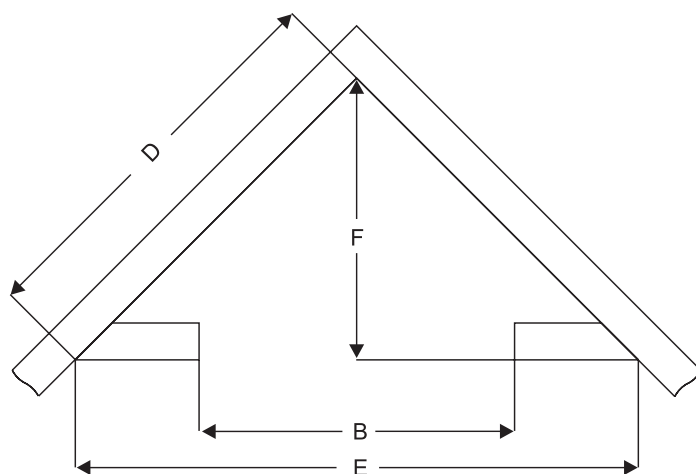
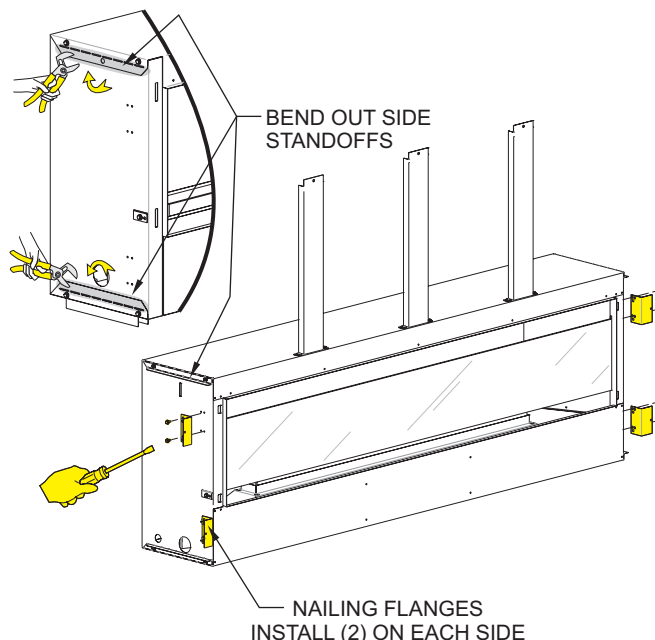

Figure 36 - Rough Opening for Installing in Corner
Figure 41
- Use dimensions shown in Figure 36 for corner rough opening. Be sure to provide gas line and electrical power for fireplace assembly.
4. On the top and bottom of each side are side framing standoffs. Use pliers to bend the side framing standoff 90 degrees away from the cabinet. See Figure 41.
5. Locate nailing flanges in the envelope pack. The holes in the nailing flanges allow different size boards and different locations for the boards. (See Figure 36) Bend the brackets at 90° angles. Install four nailing flanges with two 10 x 1/2 screws (each). (See Figure 41) The hole closer to the front edge of the fireplace is for Installation Option 1. The other hole is for Installation Option 2. Notice: The non-combustible board provided is 1/2-inch thick.